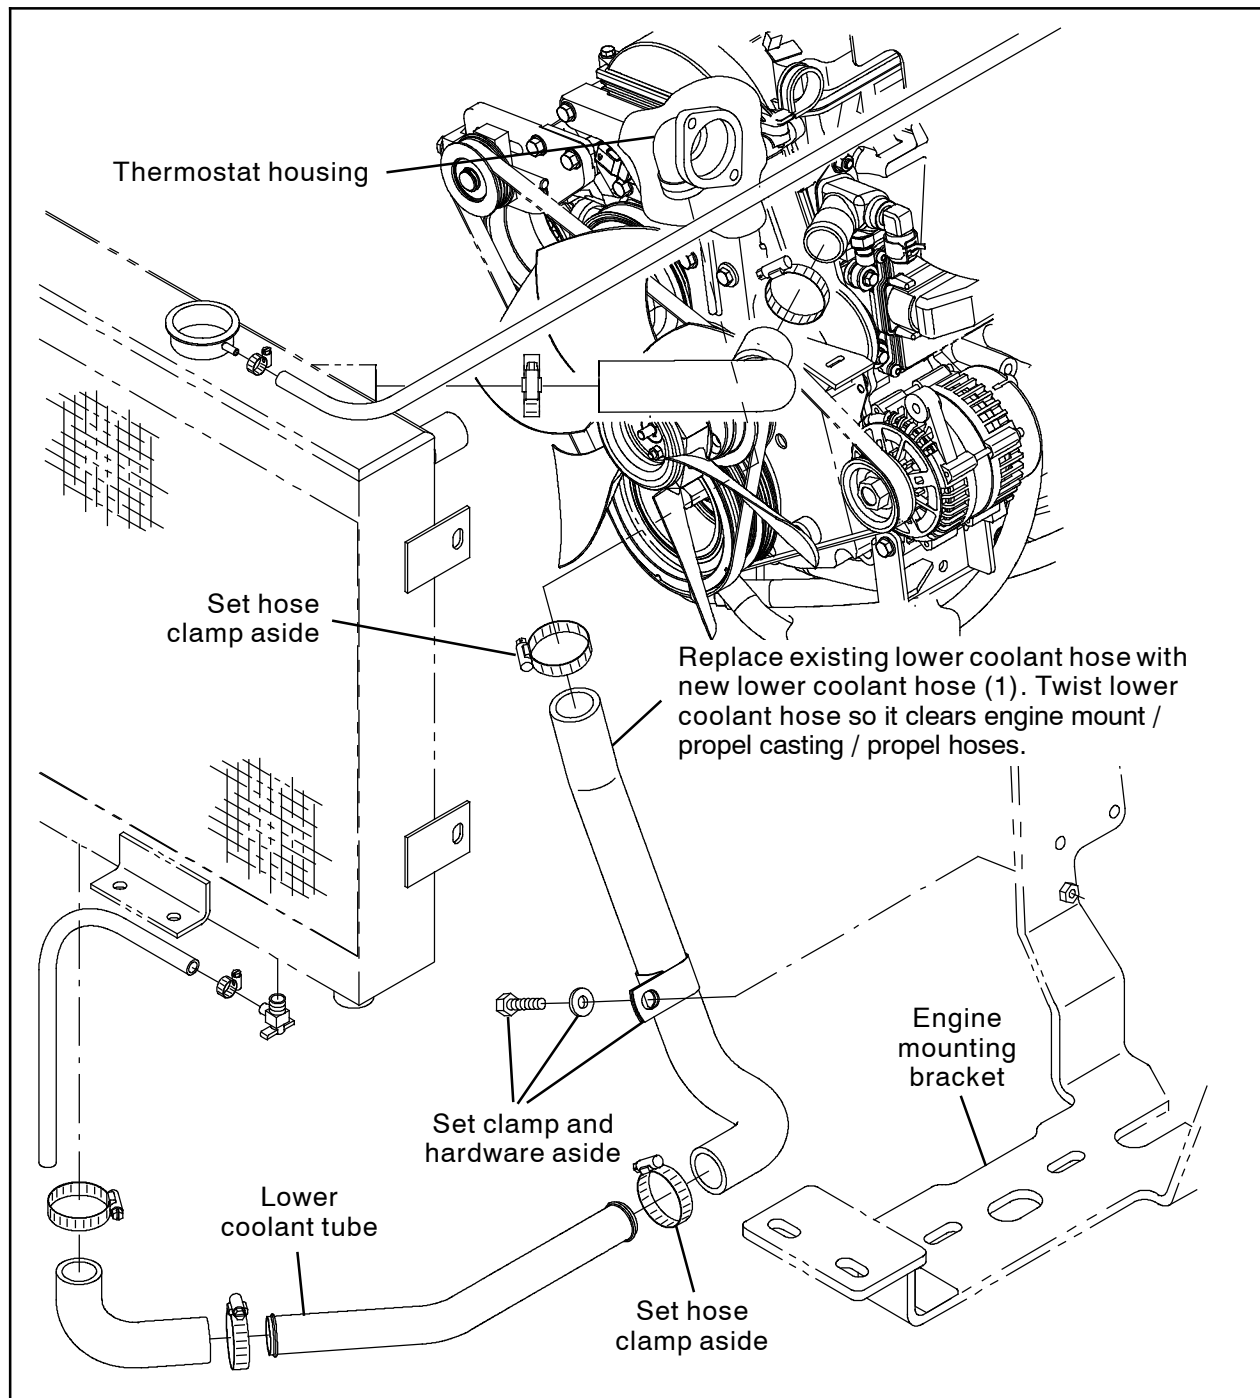

FIG. 2
1. Disconnect the lower coolant hose from the thermostat housing and lower coolant tube. Set the clamps and hardware aside. Discard the removed lower coolant hose. (Fig. 2)
2. Slide the clamps onto the new lower coolant hose (1) and install the lower coolant hose onto the thermostat housing and lower coolant tube. **Do Not** tighten the hose clamps. (Fig. 2)
3. Twist the lower coolant hose (1) on the thermostat housing and lower coolant tube so the hose clears the engine mount and the propel casting / propel hoses. (Fig. 2)
5. If necessary, adjust the position of the lower coolant hose so the propel casting / propel hoses do not touch the lower coolant hose (1) when the steering wheel is turned to the left.
6. Tighten both hose clamps to secure the lower coolant hose (1) to the thermostat housing and the lower coolant tube. (Fig. 2)
7. Reinstall the clamp onto the engine mounting bracket to secure the lower coolant hose (1) into place. (Fig. 2)